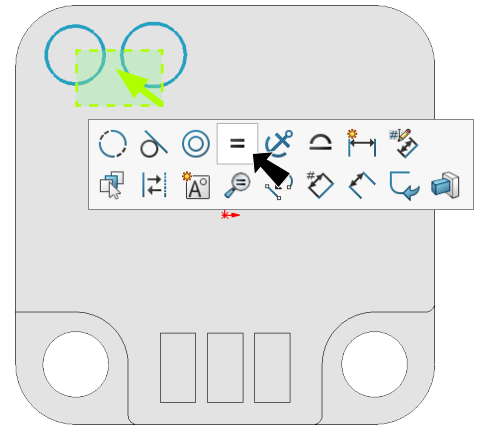

Fig. 58
Step 6. **Drag selection to left to select both circles** and click **Make Equal**  on the context toolbar, **Fig. 58**.